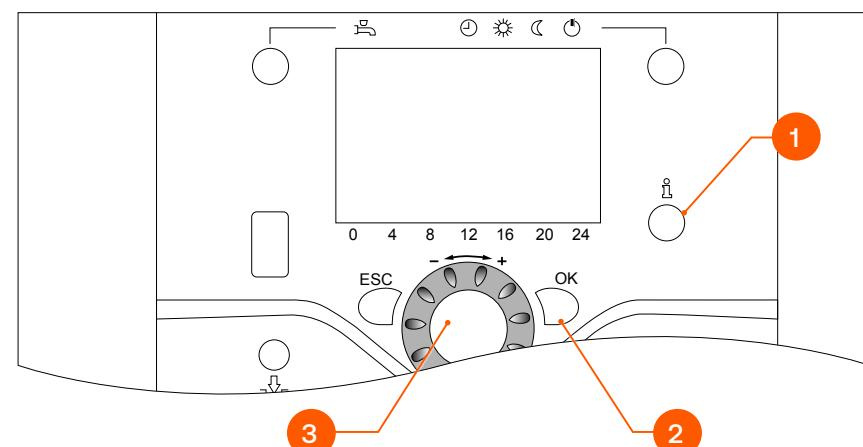

Fig. 3. Using the controls
Access Levels (See Fig. 3)
1. Access the *Commissioning* or *Engineer* level (see “Access Levels \(See Fig. 3\)” on page 6).
2. Depress the *Heating mode selection* button (4) for more than 3 seconds to access the *Controller stop function*.
3. Press the *Information* button (1) to display the modulation indicator (in %).
4. Depress the *OK* button (2), the indicator starts flashing.
5. Rotate the selection knob (3) to the right to increase to 100% (high fire) or to the left, to decrease to 0% (low fire). Press the *OK* button (2) to confirm.
6. Depress the *ESC* button (5) to exit each function and menu and get back to the home screen.
2. Depress the *OK* button (2) to access the menus.
3. Rotate the selection knob (3) to reach the *Diagnostics heat operation* function. Press the *OK* button (2) to confirm.
4. Rotate the selection knob (3) to reach program line:
5. Depress the *ESC* button (5) to exit each function and menu and get back to the home screen.
1. Access the **Commissioning** or **Engineer** level (see “**Access Levels (See Fig. 3)**” on page 6).
2. Depress the **OK** button (2) to access the menus.
3. Rotate the selection knob (3) to reach the **Fault** function. Press the **OK** button (2) to confirm.
4. Rotate the selection knob (4) to reach program line:
5. Depress the **ESC** button (5) to exit each function and menu and get back to the home screen.
1. Access the **Commissioning** or **Engineer** level (see **“Access Levels (See Fig. 3)” on page 6**).
2. Depress the **OK** button (1) to access the menus.
3. Rotate the selection knob (2) to reach the **Configuration** menu. Press the **OK** button (1) to confirm.
4. Rotate the selection knob (2) to reach program line:
5. Depress the **OK** button (1). **“No”** starts flashing. Rotate the selection knob to change **“No”** into **“Yes”** and depress the **OK** button (1) to confirm.